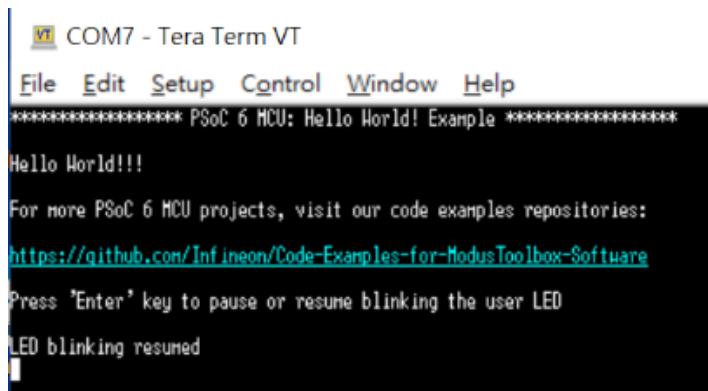

Figure 3: Terminal message echoed from development board
5. Connect to the DVK board with these settings. The pre-loaded image on the DVK will echo “Hello World!!!” in the terminal when connected, in addition to the following as shown in Figure 3.